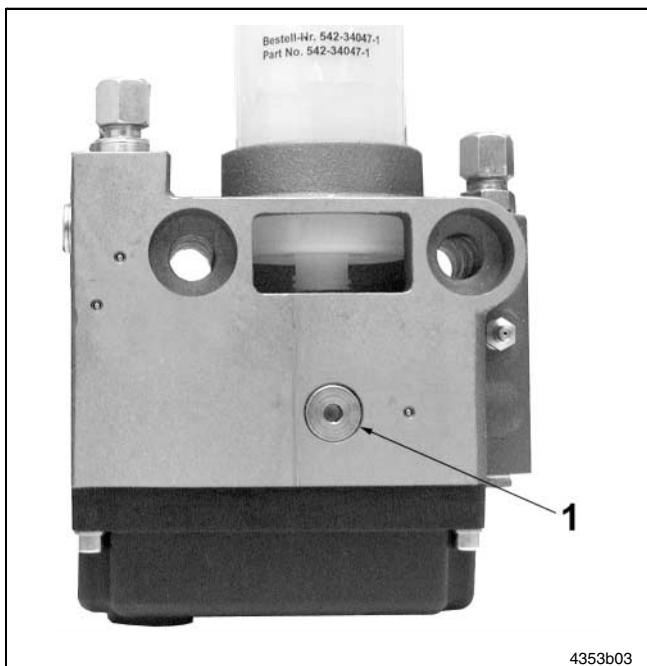

Fig. 8 Insert cartridge into the lubrication pump HTL 101
- Insert the cartridge in the bore hole by lightly pressing and screw it into the housing (described as in Fig. 8) hand-tightly
- Remove closure plug (fig. 8, pos. 1)
If afterwards the pump does not dispense lubricant immediately, vent the housing (see description, fig. 8 "vent housing").